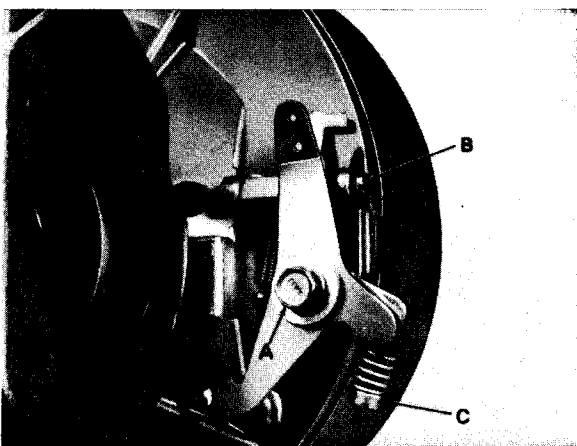

Figure 63. Governor and Throttle Linkage Removal.
The governor and throttle linkage attached to the backplate of the engine can now be removed. (See Figure 63.) Using a 3/8" socket, remove screw (A), and disconnect the remaining governor and throttle linkage from the backplate of engine. Then remove screw (B) and lift off governor vane.